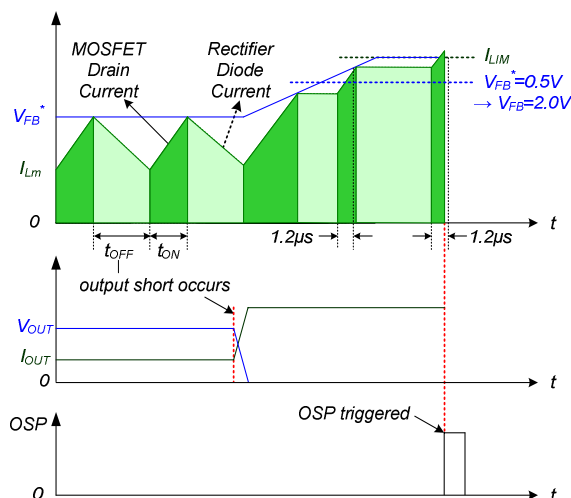

Figure 22. Output-Short Protection
4.3 Output-Short Protection (OSP): If the output is shorted, steep current with extremely high di/dt can flow through the SenseFET during the minimum turn-on time. Such a steep current brings high-voltage stress on the drain of the SenseFET when turned off. To protect the device from this abnormal condition, OSP is included. It is comprised of detecting V_{FB} and SenseFET turn-on time. When the V_{FB} is higher than 2V and the SenseFET turn-on time is lower than 1.2 μ s, the FSGM0465RB recognizes this condition as an abnormal error and shuts down PWM switching until V_{CC} reaches V_{START} again. An abnormal condition output short is shown in Figure 22.